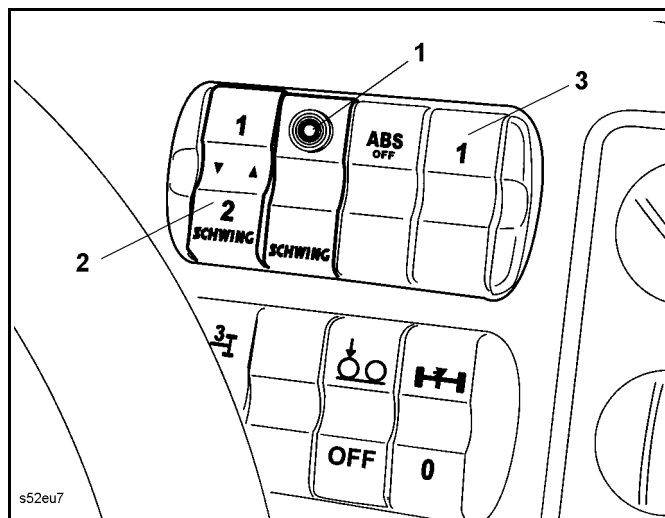
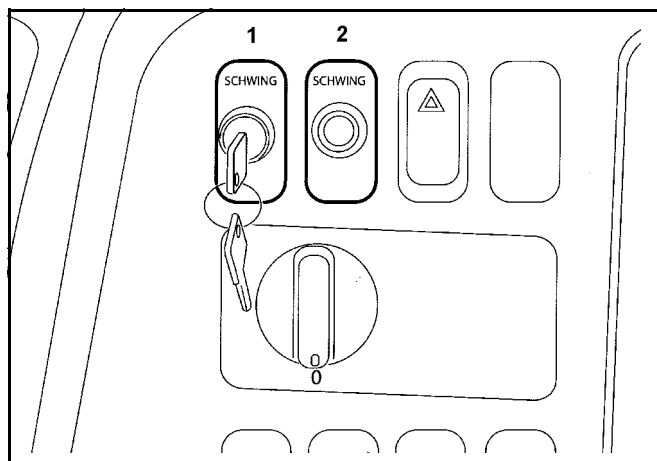

Fig. 114 Cab toggle switch
Fig. 115 Cab key-operated switch
Toggle switch (2) (**Fig. 114**) or key-operated switch (1) (**Fig. 115**).
- Switch on the outrigger lighting, if necessary, e.g. by using the toggle switch (3) (**Fig. 114**).